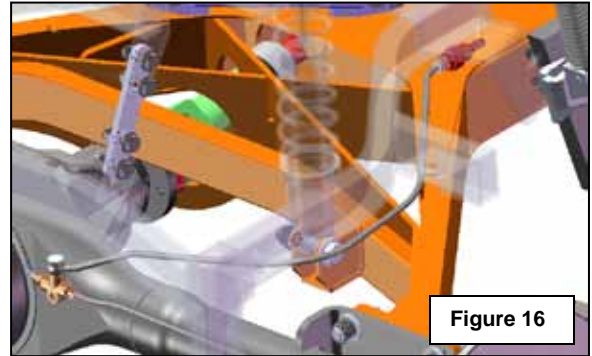

Figure 16
- a. Route the 24.75" braided brake line around to outboard side of the right shock absorber and backward along the right leg of the swing arm. Figure 16